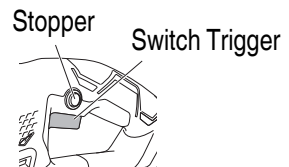

Fig. 10
- (1) Position the unit at a right angle to the surface (0-degree incline).
- (2) Holding the chip cover's guide section open by hand, push into the main unit.
- (3) Insert the chip cover's catches into the main unit's slots.
- (4) When detaching, spread the catches of the chip cover and draw them out from the main unit's slots.
- ## 13. Switch Operation (**Fig. 10**)